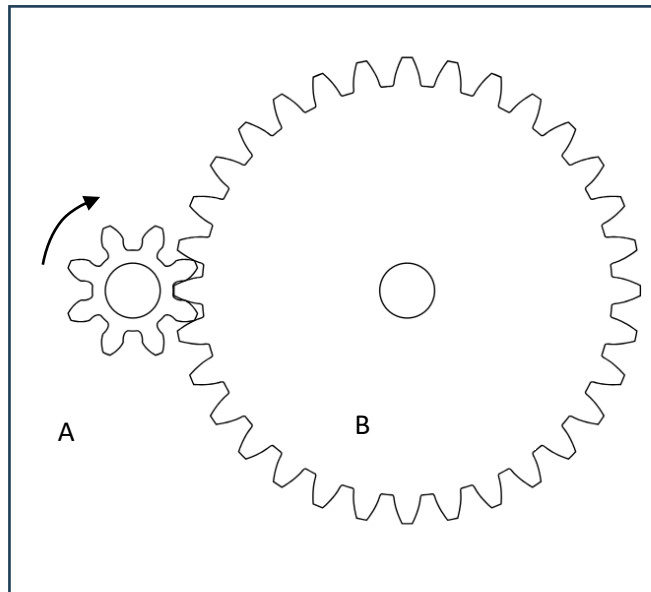

Figure 16a
21. A gear system is attached to the d.c. motor in order to add rotation to the planets. Figure 16a shows the gear system. Gear A is the input gear and is moving in clockwise direction.
a. Underline the specific name for the gear composition shown in Figure 16a.
b. Draw the direction of rotation for Gear B on Figure 16a. (1)